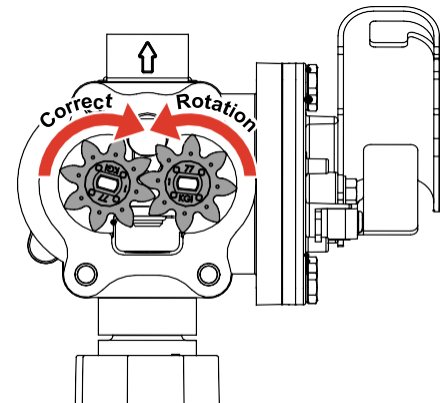

Figure 14
- Motor running backwards due to incorrect polarity (See Figure 14). Connect red wire to positive (+) ungrounded side of battery.